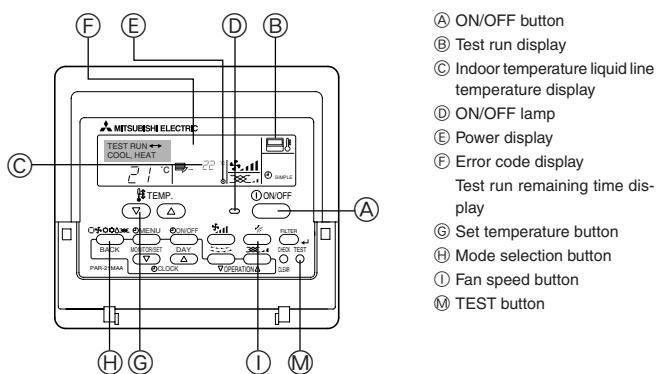

Fig. 8-1
8.2. Test run (Using wired remote controller) (Fig. 8-1)
- ① Turn on the power at least 12 hours before the test run.
- ② Press the [TEST] button twice. ➔ "TEST RUN" liquid crystal display
- ③ Press the [Mode selection] button. ➔ Make sure that wind is blown out.
- ④ Press the [Mode selection] button and switch to the cooling (or heating) mode.